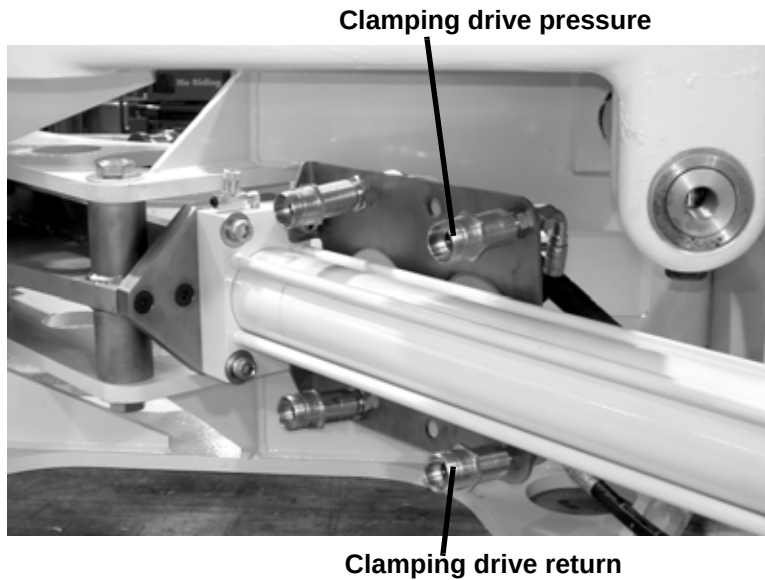

Figure 5-34. Connect the clamping drive hoses to the saw as shown.
1. Connect the clamping drive hoses from the TCU or hose reel to the fittings on the saw bulkhead as shown in Figure 5-34.